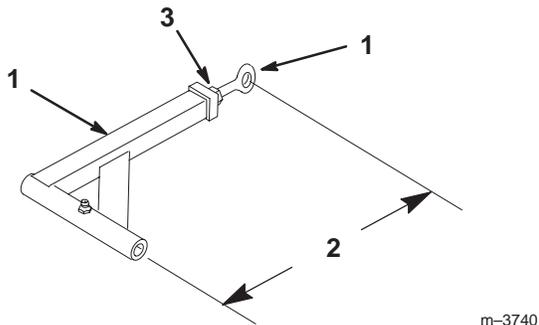

Figure 65
- If the fixed idler contacts the end of the adjustment slot and more belt tension is required, a small change to lengthen the push arms can be made (Fig. 65).